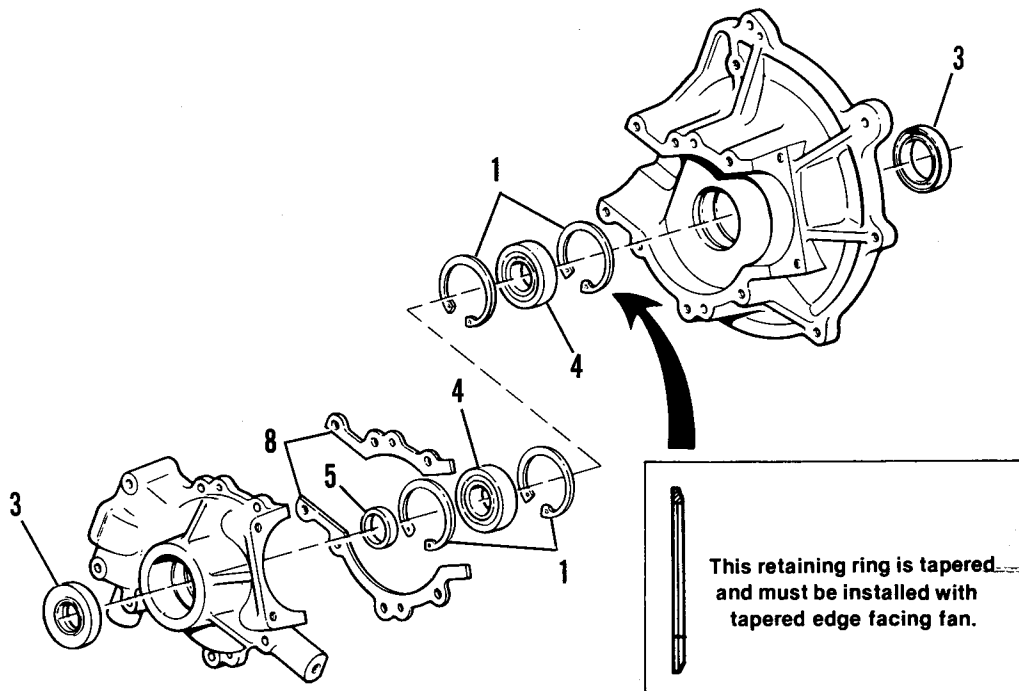

Figure 59 – Crankcase Oil Seals and Retaining Rings
i. Pull out the oil seals (3), Figure 59.
j. Remove retaining rings (1) and tapered retaining ring (2) from the crankcase halves, Figure 59.
k. Remove spacer (5) and gasket (8), Figure 59.
l. Install crankcase halves on press bed and press crankcase bearings (4) out, Figure 59.
Assembly (Figure 59)